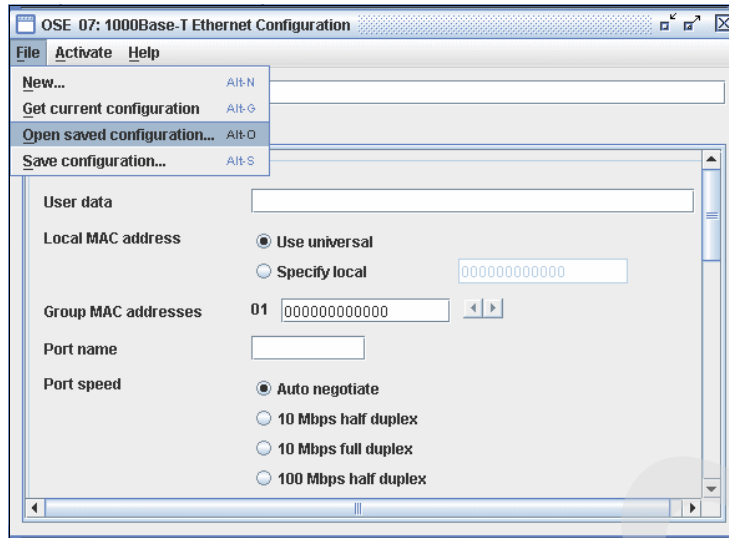

Figure 3-23 OSA/SF Workstation Interface - Open saved configuration
3. OSA/SF displays a default panel for the type of feature selected. Click **File** → **Open saved configuration...** (Figure 3-23).